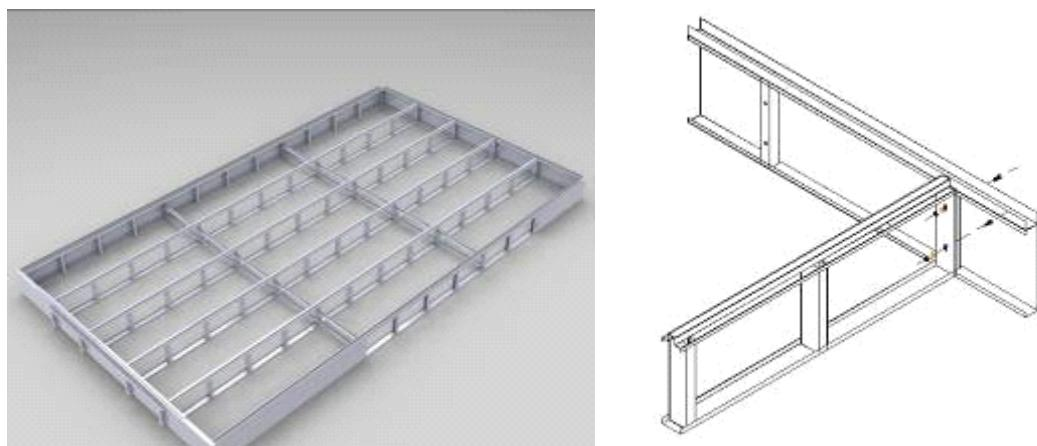

Fig. 3.4
1. Put the metal board(front,back,sides)and middle bracket in the right place, and connect them with bolt M8*20 according to the demand of the installation chart.then screw down. Shown in Fig.3.4.